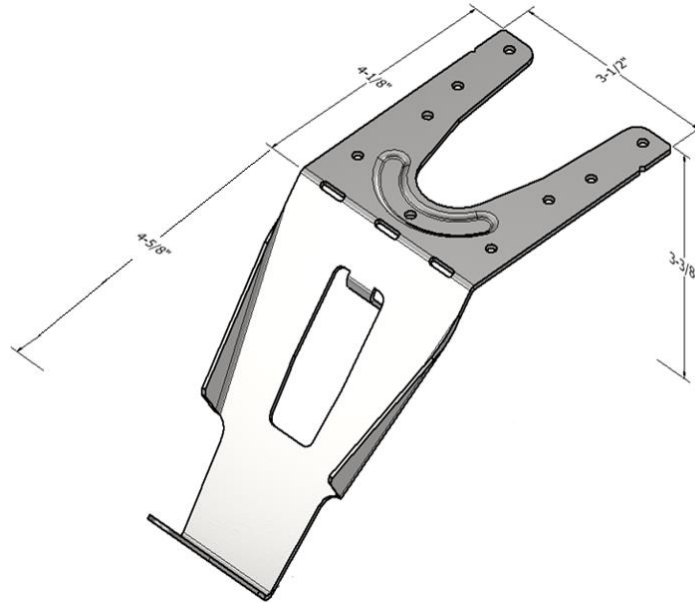

Figure 1. FASA4 Foundation Anchor Strap
1.1 The innovative product in this report is shown in **Figure 1**.